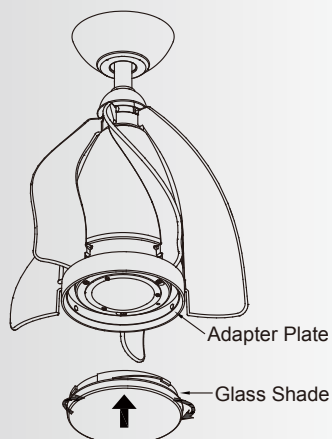

Fig. 24
Step 1. Assemble the glass shade to the light kit by twisting in a clockwise direction. Do not overtighten. (Fig. 24)